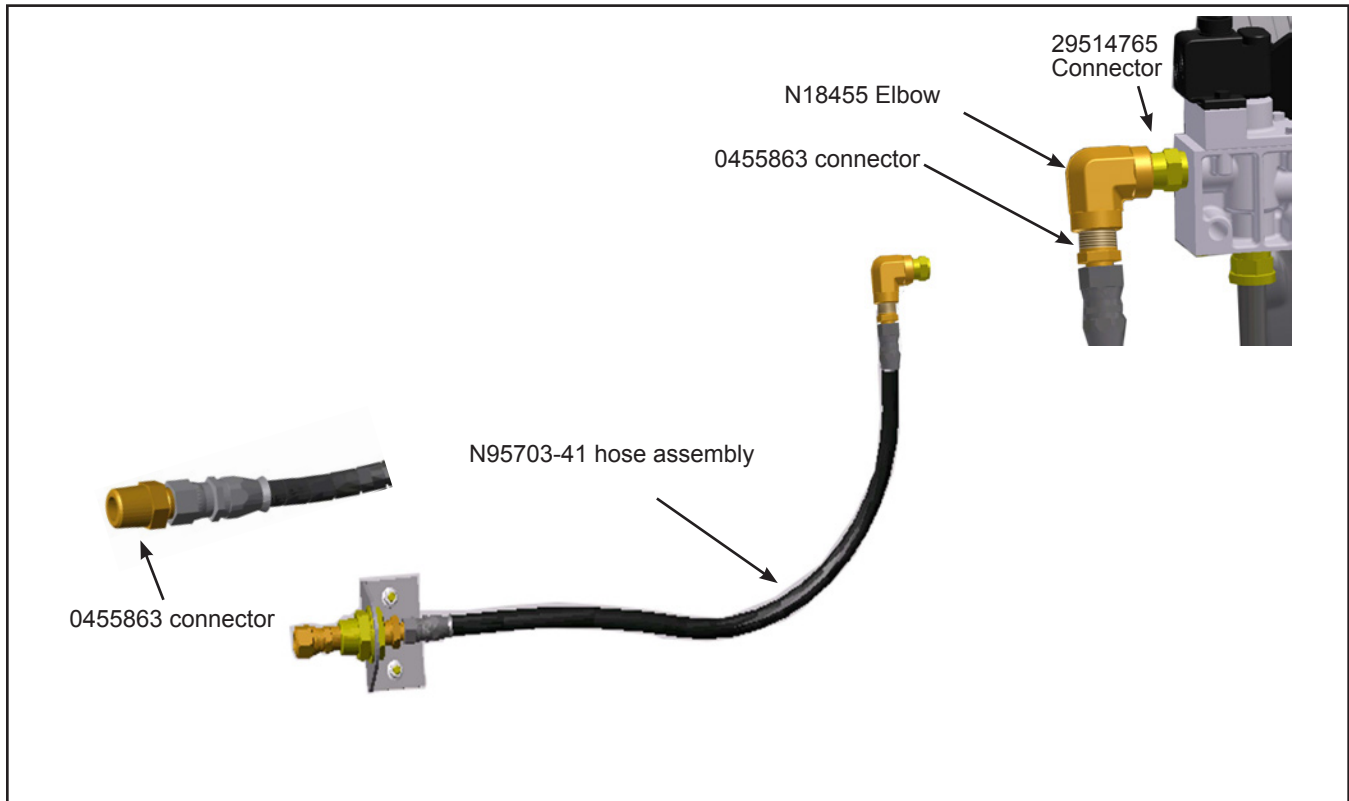

Figure 4 - New Retarder Air Line Assembly
- 1.8. Install 29514765 connector. See Figure 4.
- 1.9. Install N18455 elbow. See Figure 4.
- 1.10. Install the two new 0455863 connectors. See Figure 4.
- 1.11. Install the new N95703-41 hose assembly. See Figure 4.